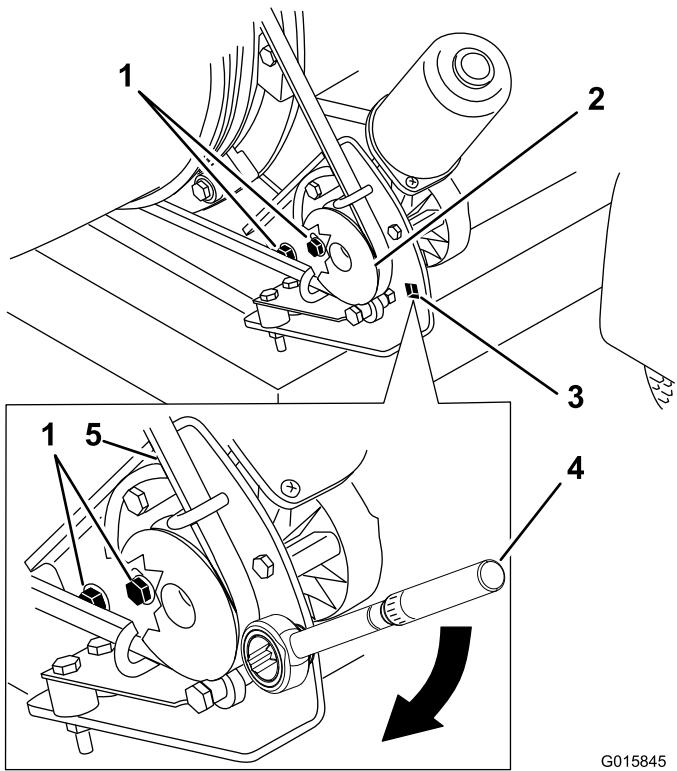

Figure 28
1. Loosen the bolts securing the pulley mounting bracket to the blower frame (Figure 28).
2. Position a torque wrench into the pulley mounting bracket (Figure 28).
3. Pivot the pulley mounting bracket away from the nozzle until the torque wrench reads 200 to 230 in-lb (22.6 to 26.0 N-m) (Figure 28).